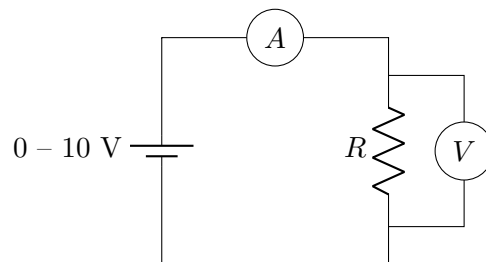

Figure 4.3: Current and voltage measurements for a single resistor.
4. Connecting wires: Normally the wires going to the power supply and multimeters are color-coded red (R) and black (B) to correspond with the color coded terminals on the instruments. Jumper leads, which complete the circuit by connecting the various parts together, are not necessarily color-coded. Selecting a variety of colors for the jumpers may be helpful in keeping track of your wiring. Make all of the required connections by plugging components and leads into the designated places.
5. The circuit to be connected is diagrammed in Figure 4.3. Connect the red terminal of the power supply to the red terminal of the ammeter (marked mA). From the black ammeter terminal (COM), connect to one end of the resistor. From the other end of the resistor run a wire to the black terminal of the power supply. Thus, current from the power supply must pass through both the ammeter and the resistor to complete its circuit back to the power supply. Try increasing the power supply voltage slightly, then back down to zero; you should see a corresponding variation in the current.